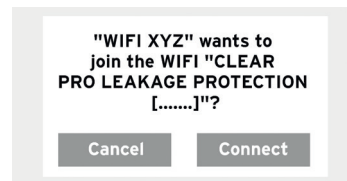

Fig. 9.7
- / If the connection is established, the **CLEAR PRO APP** wants to join the WLAN of the **CLEAR PRO CONEL** MultiControl leakage protection system. Select „Connect“ (Fig. 9.7)